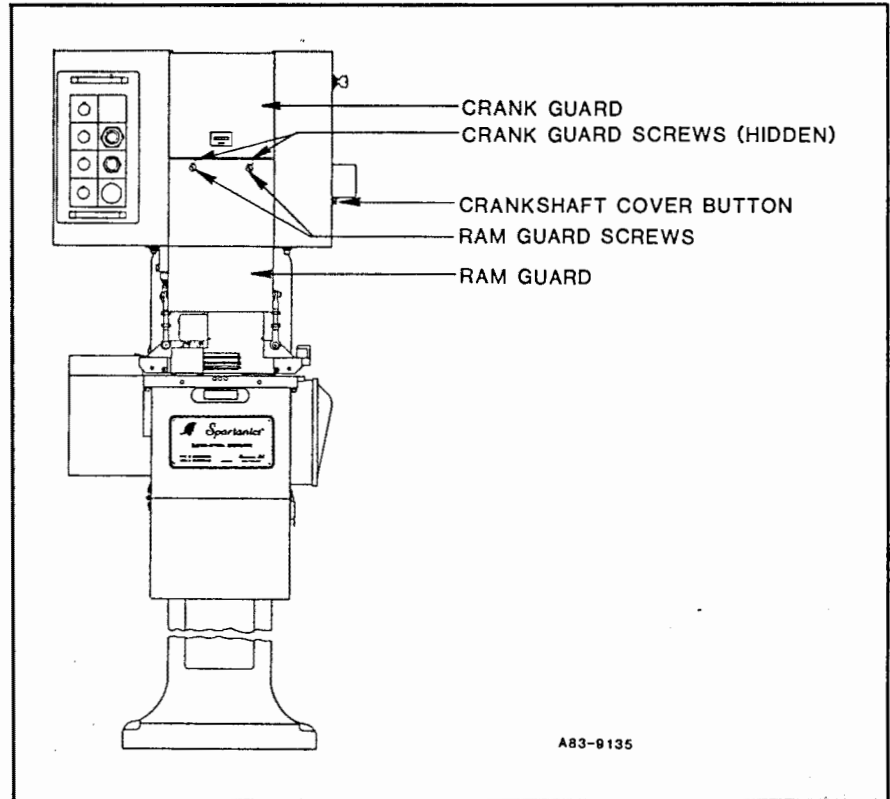

Figure 7.2 A
4. Pull up crankshaft cover button with needle-nose pliers and let crankshaft cover flip into up position. See Figure 7.2 A.